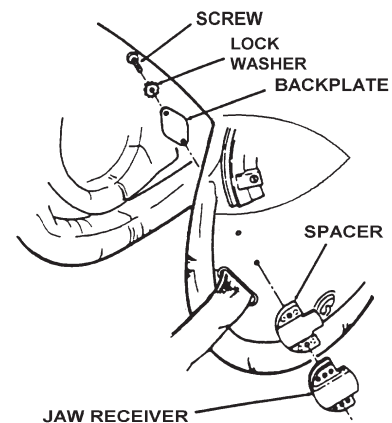

Figure 3-33. Bayonet Receiver Assembly
- a. Hold the pile fabric fastener away from the interior helmet shell assembly. Referring to Figure 3-33, insert screws with lockwashers through the backplate from the inside of the helmet shell assembly. Attach jaw receivers and spacers to outside of the helmet shell assembly. Ensure that projections on jaw receivers are pointing to the rear of the helmet shell assembly.